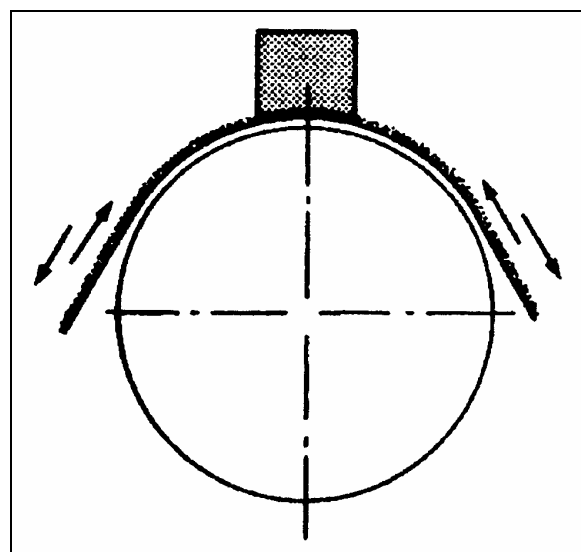
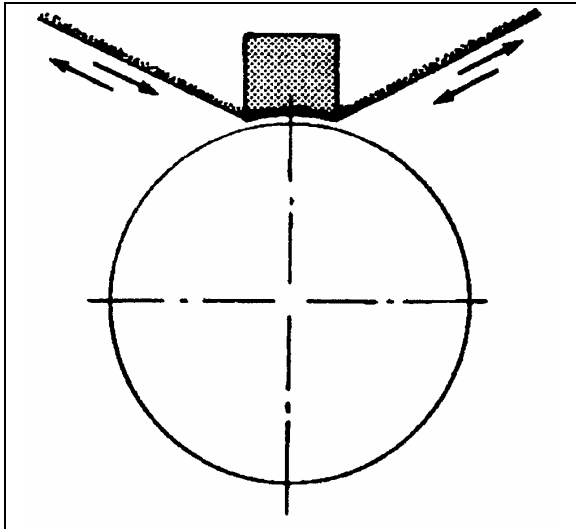

FIGURE 26: PROPER GRINDING TECHNIQUE
FIGURE 27: IMPROPER GRINDING TECHNIQUE
- a) Grinding with abrasive cloth medium grit (sandpaper) (grit 60) applied to a part of the commutator by hand. The new brushes installed in their brush holder and pressing against the cloth, one makes oscillate the rotor until complete grinding of the seating faces (Refer to Figure 26). It is necessary to avoid raising the cloth under the brushes otherwise it would result, after grinding, to reduce and badly definite surfaces (Refer to Figure 27).